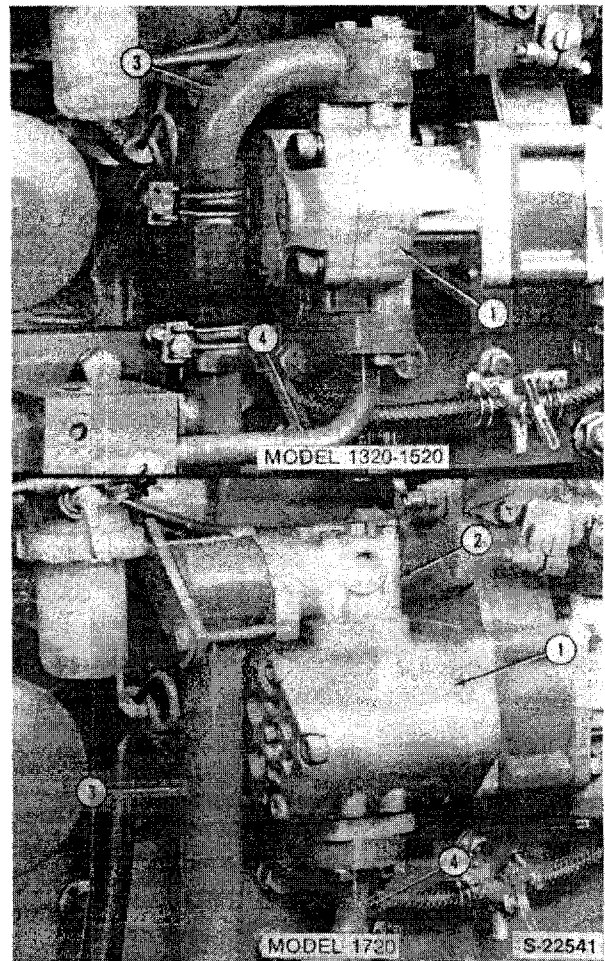

Figure 55
The hydraulic pump (1), Figure 55, is mounted on the right hand side of the engine and is driven by the engine oil pump gear mounted at the front of the engine block.
Reference — Figure 55
3. Remove the mounting bolts and nuts and remove the pump from the front mounting case, Figure 55.